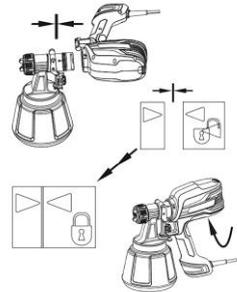

Fig. 14
1. Press the hook slightly downwards then turn the spray attachment and the main body against each other and take them apart (Fig. 14).
7. Reconnect the spray attachment to the main body (Fig. 14).